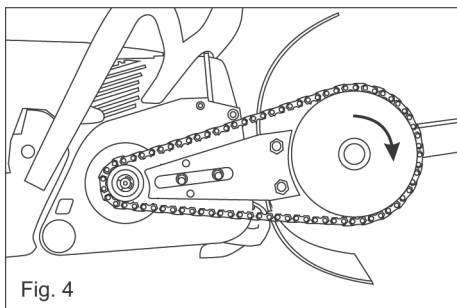

Fig. 4
5. Engage the drive chain with power head drive sprocket, ensuring the drive teeth are seated correctly (Fig. 4).